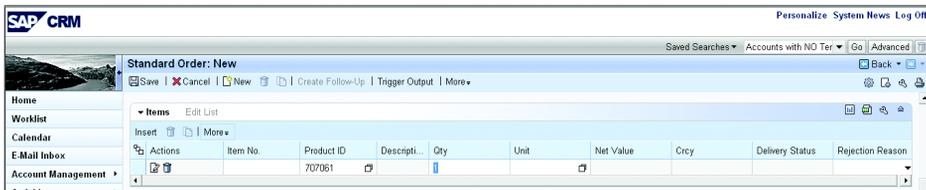

Figure 4.43 SAP CRM Sales Order Screen with the Product Entered
12. Create the order, and enter all relevant partner data and the product, as shown in Figure 4.43.